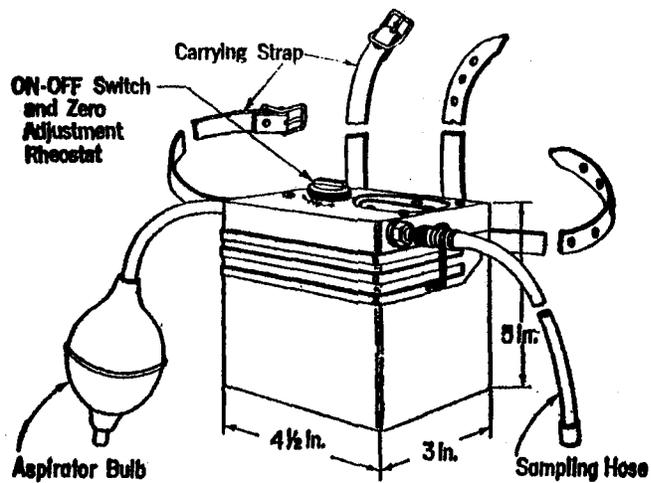

Fig. 1
3.01 Aspirator Bulb Test (See Fig. 1)
3.05 Check Hose For Contamination (See Fig. 1)